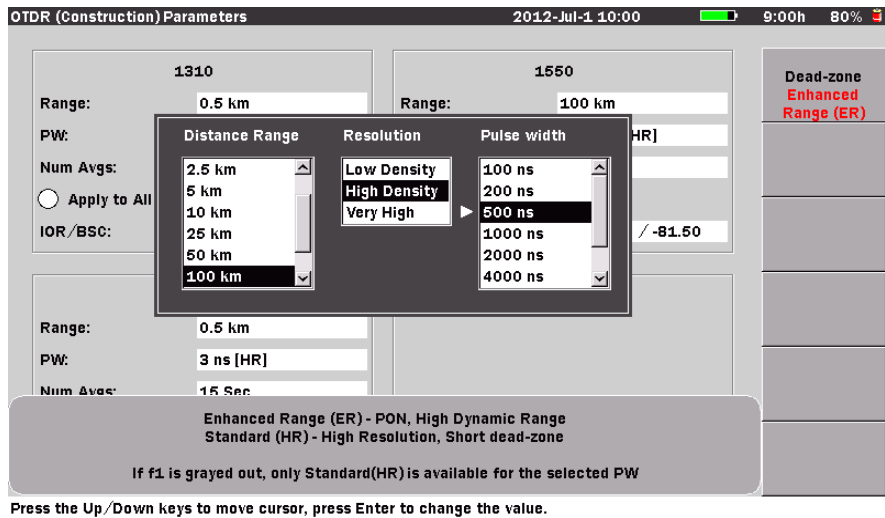

Figure 6-12: Dead-zone Mode Selecting screen
1. With the OTDR Parameters screen displayed, use the **Left/Right/Up/Down Arrow keys** (or the **Rotary knob**) to highlight the **Range** field or **PW** field for the for the first desired wavelength and then press the **Enter key** (or the **Rotary knob**). The Distance Range, Resolution, and Pulse width dialog appears (see Figure 6-12 on page 6-33).